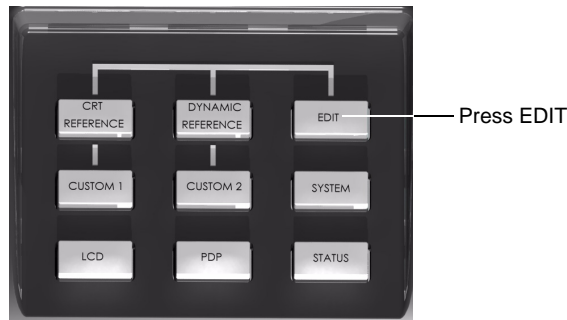

Figure 2-14 Accessing the CRT Reference Parameters
2. Press the **EDIT** key, as shown in Figure 2-14.